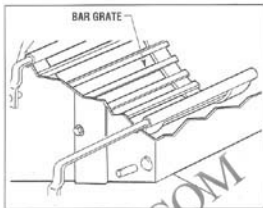

Figure 4-15: Install bar grate.
4. Position the screen or bar grate (shown in Figure 4-15) up into the discharge opening (curve of screen or grate faces down). Make sure that the tubes at each end of the screen (or grate) align with the holes in the wall of the PTO Chipper/Shredder.